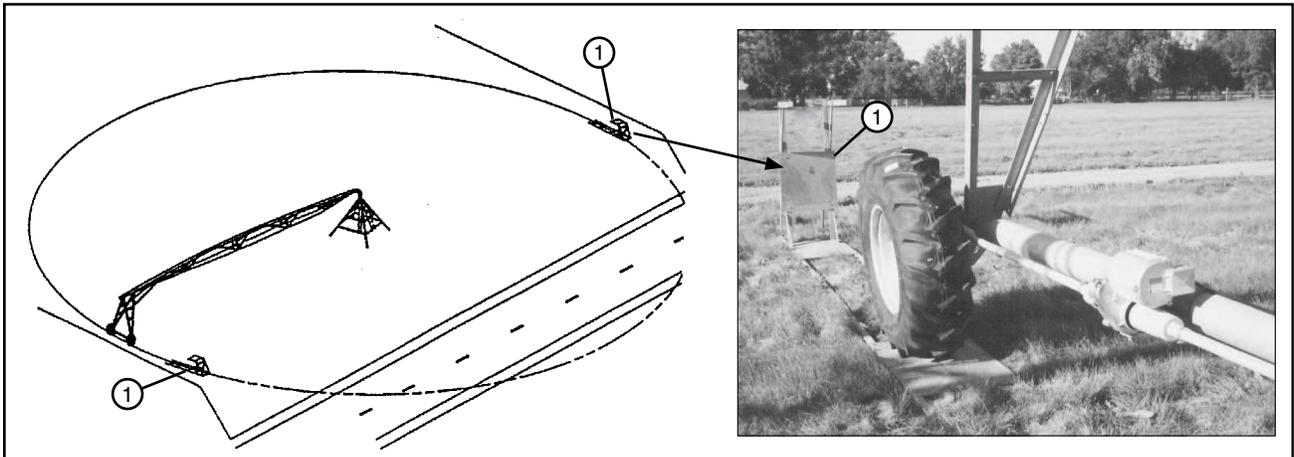

Figure 29-1 1. Physical barricade
• **PHYSICAL END OF FIELD STOP BARRICADES MUST BE INSTALLED ON ALL PART CIRCLE MACHINES. THE PHYSICAL BARRICADES SERVE AS A BACKUP IN CASE THE CIRCUITRY OR THE TRIP STRUCTURE SHOULD EVER FAIL. DELETION OF THE PHYSICAL BARRICADES CAN BE DONE BY THE CUSTOMER ONLY. SEE FIGURE 29-1.**